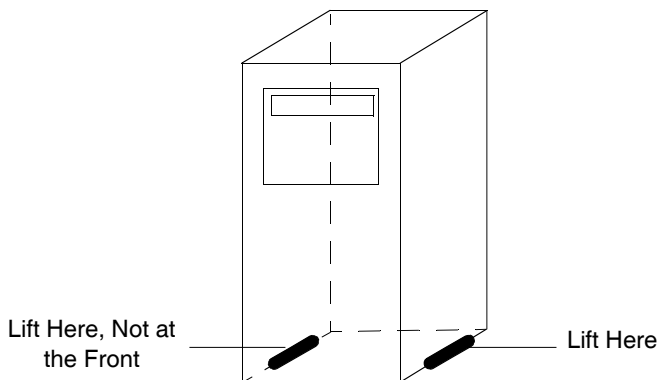

Figure 2-3 Unpacking the 2465 Detector
3. With both hands on the sides of the 2465 Detector, lift it from the carton (Figure 2-3).